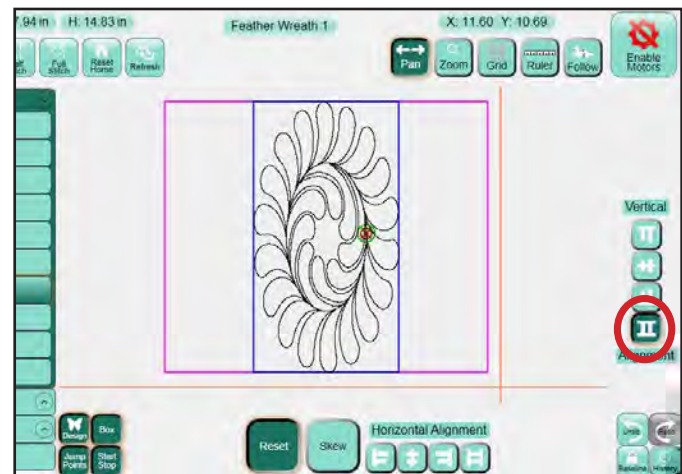

Figure 5.70
**Vertical Stretch:** (*Figure 5.70*) The current design will be stretched (*or shrunk*) so the top of the bounding box aligns with the highest point of the **Area** and the bottom of the bounding box aligns with the lowest point of the **Area**.